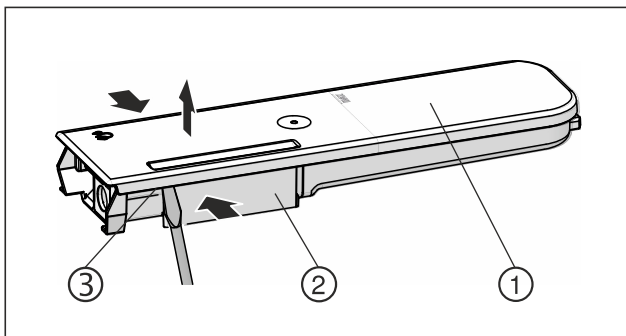

Fig. 149
- ▶ Push the water tanks Fig. 149 (2) together, leverage the cover Fig. 149 (1) carefully over the latching tabs Fig. 149 (3) and lift it up.
- ▶ Move the cover Fig. 149 (1) slightly forwards and back, and remove to the top.